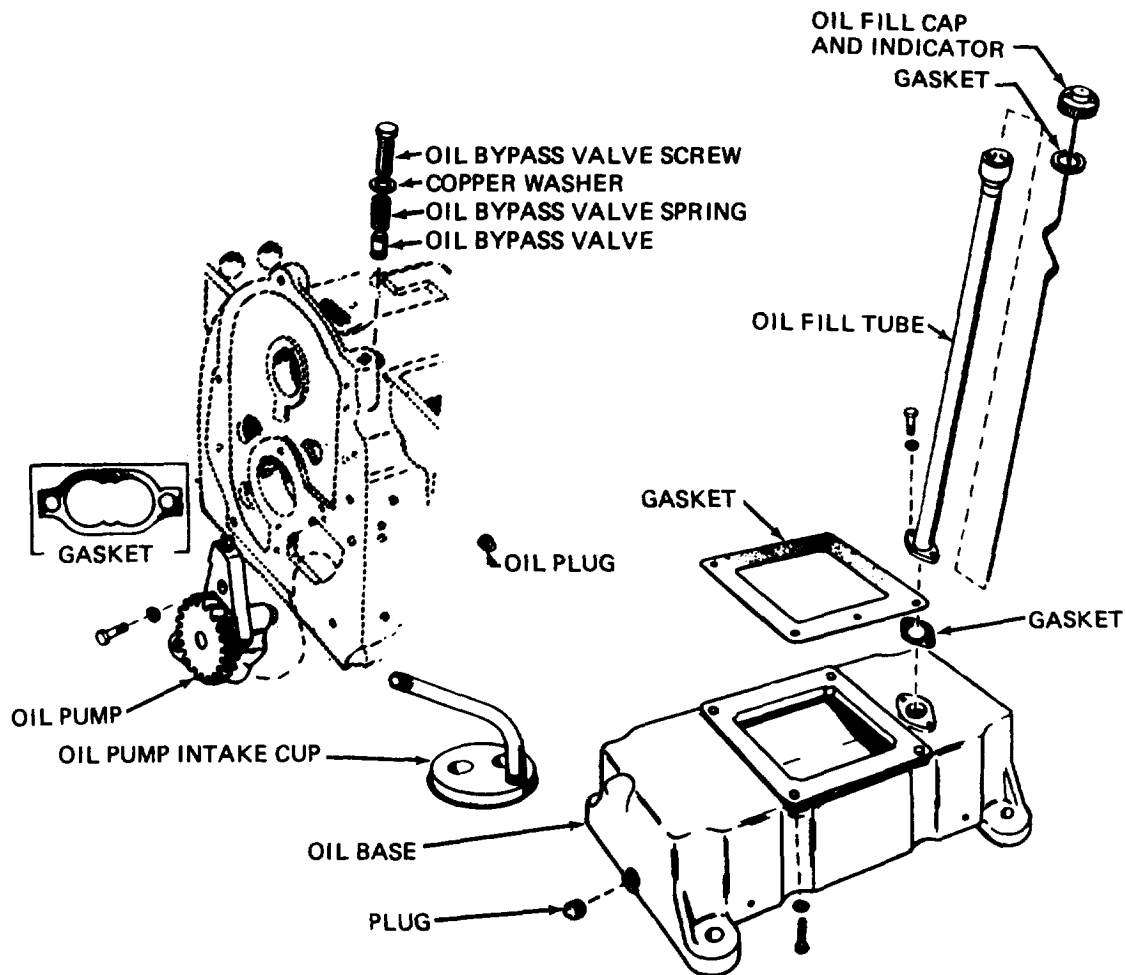
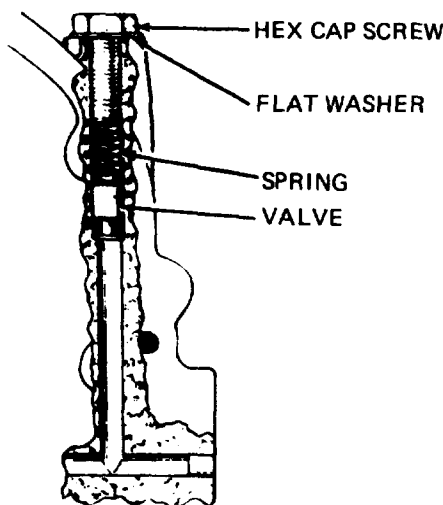

Figure 5-59. Engine Oil System
Figure 5-61. Oil Bypass Valve
c. Oil Bypass Valve Inspection. See figure 5-61. The bypass valve (located to the right and behind the gear cover fig. 5-59) controls 011 pressure by allowing excess oil to flow directly back to the crankcase. Normally the valve begins to open about 30 psi. The valve is non-adjustable and normally needs no maintenance. To determine if abnormal (high or low) oil pressure is caused by a sticky plunger, inspect as follows:
- (1) Remove 3/8"-24 X 3/4 inch cap screw located behind gear cover and under governor arm.
- (2) Remove spring and plunger with a magnet tool. Clean plunger and spring with approved cleaning solvent (Appendix E, Item 17) and reinstall.